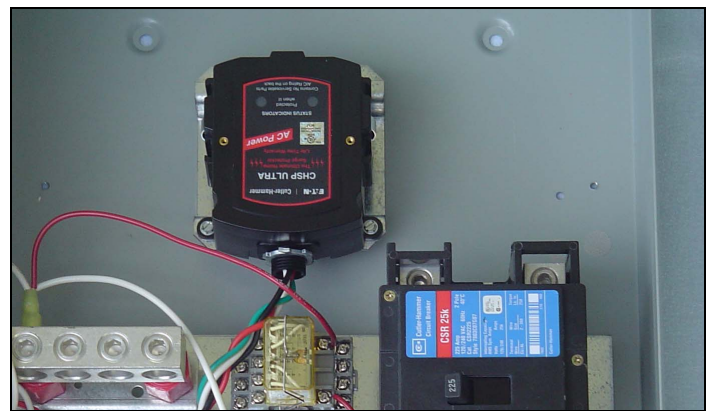

Figure 64. TVSS Installed on the Mounting Bracket.
Step 3: Align the TVSS with the holes in the mounting bracket. Secure the TVSS to the mounting brackets using the hardware provided and a flat blade screwdriver or 0.25 in. nut driver. Note that the TVSS wires should facing the ATS base plate and installed components (see Figure 64).